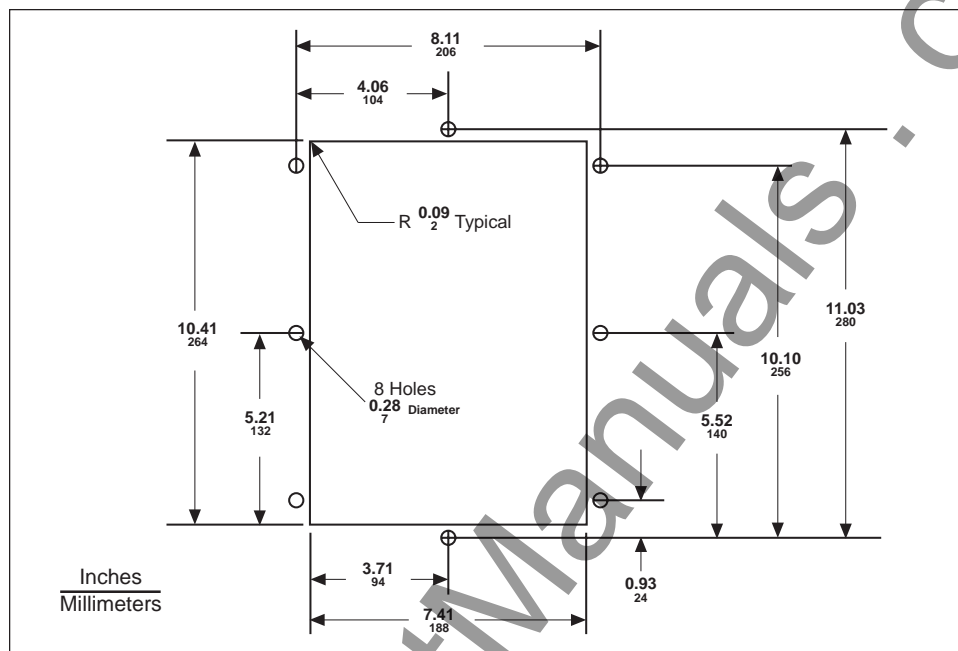

Figure 3-2: Panel preparation
1. Prepare the cutout and mounting holes. Refer to figure 3-2 for exact dimensions.